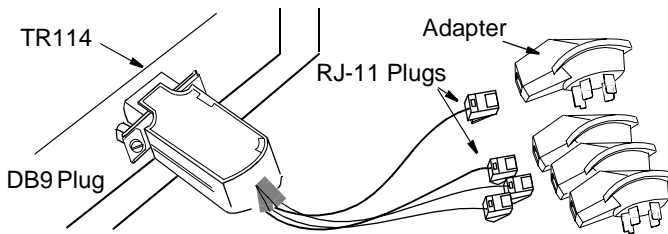

Figure 2-4. Attaching an Adapter to Your Cable
3. If your cable requires adapters, attach each adapter to an RJ-11 plug (see Figure 2-4). If your cable does not require adapters, go to step 4.